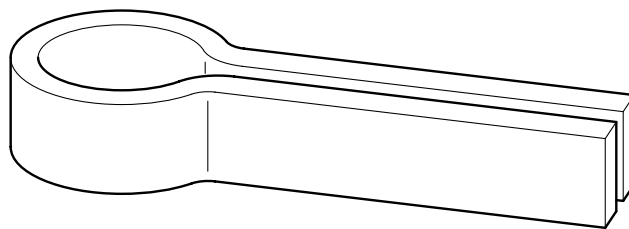

Fig. 2
- 4 Fig. 2 shows a tool used in the workshop.